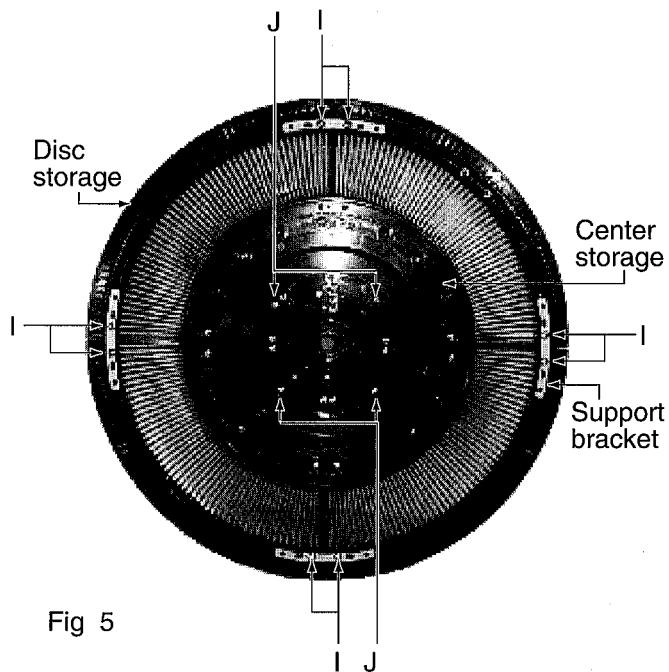

Fig. 5
* 20screws"K" is except "I""J" (Fig 5)